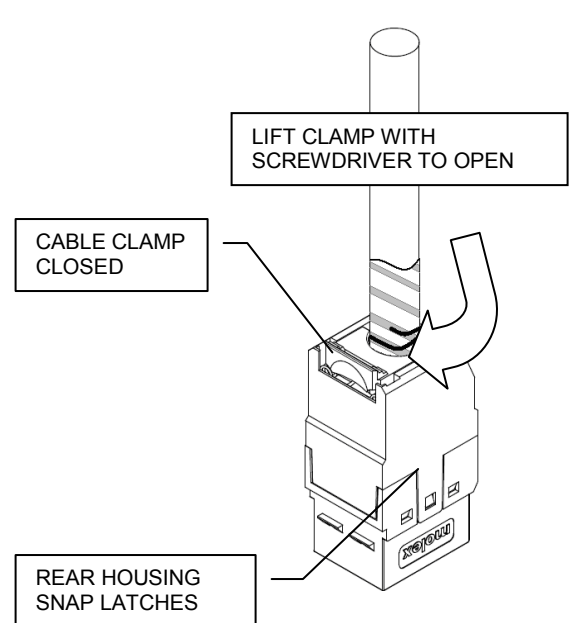

Fig. 7
1. Lift cable clamp with screwdriver (see Fig. 7)
2. Lift rear housing snap latches with screwdriver (see Fig. 7)